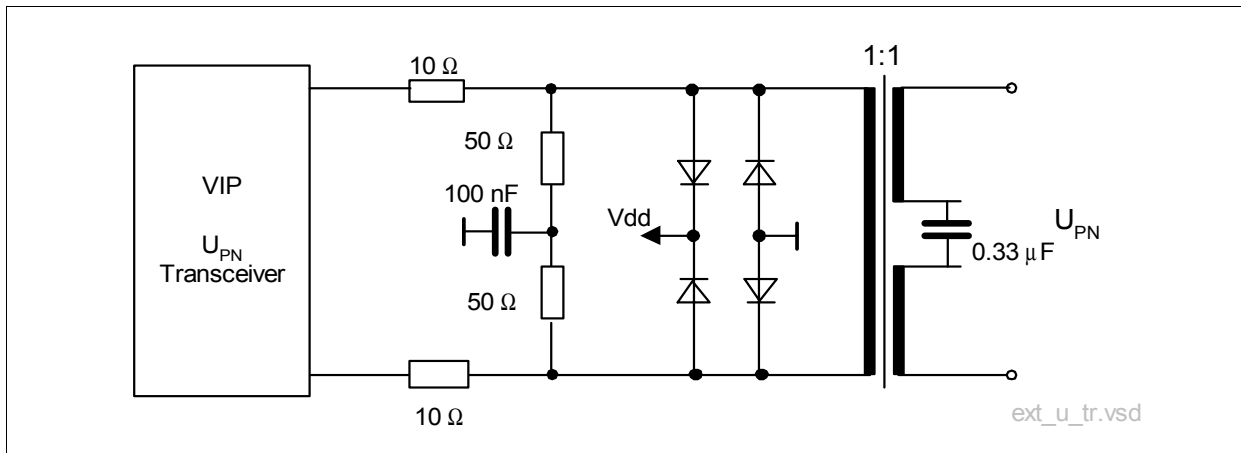

Figure 28 External Transceiver Circuitry of the VIP in U_{PN} Mode
A transformer, external resistors and two capacitors (100 nF and 0.33 μF) are connected externally to the line interface pins Llna,b. Voltage overload protection is achieved by adding clamping diodes (see **Figure 28**).
*Note: The resistor values in **Figure 28** are optimized for an ideal transformer ($R_{Cu} = 0$). The 0.33-μF capacitance will be verified during system tests.*